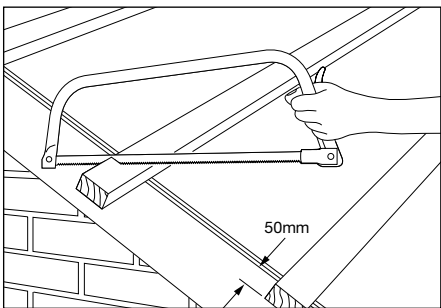

Fig. 1 – Position top course tiling battens
- 2 Saw tiling battens off square to overhang bargeboard or brickwork by 50mm and nail (Fig. 1).